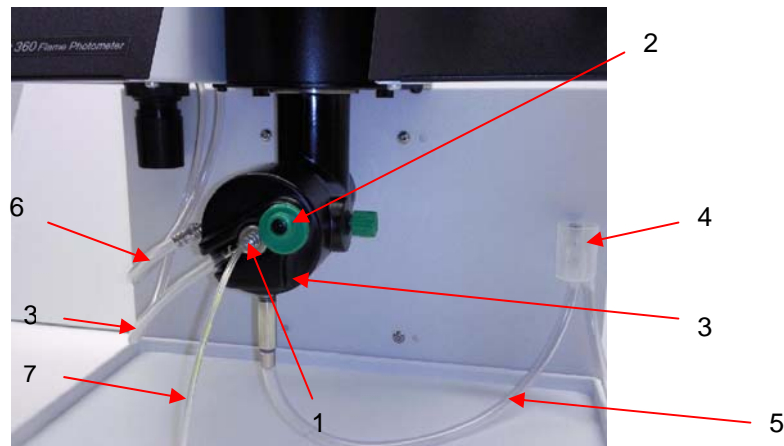

Figure 2.4 Mixing Chamber
Attach the 6mmOD tube (item 6, Figure 2.4) from the Gas Pod to the side port of the Mixing Chamber Assembly.
3. Slide the Constant Head and Drain over the screws on the right hand side of the Vanity/Rear Panel. Connect the 'U' Tube (item 5, Figure 2.4) to the bottom outlet of the Mixing Chamber Assembly.
7. Remove the nebuliser from its box and push the nebuliser barb into the air tubing (item 3, Figure 2.4). Fit the nebuliser, with its flat sealing washer, to the mixing chamber and position the retainer to lock it into position (item 2, Figure 2.4). Fit the nebuliser inlet tube (item 7, Figure 2.4), making sure that it is pointing downwards.